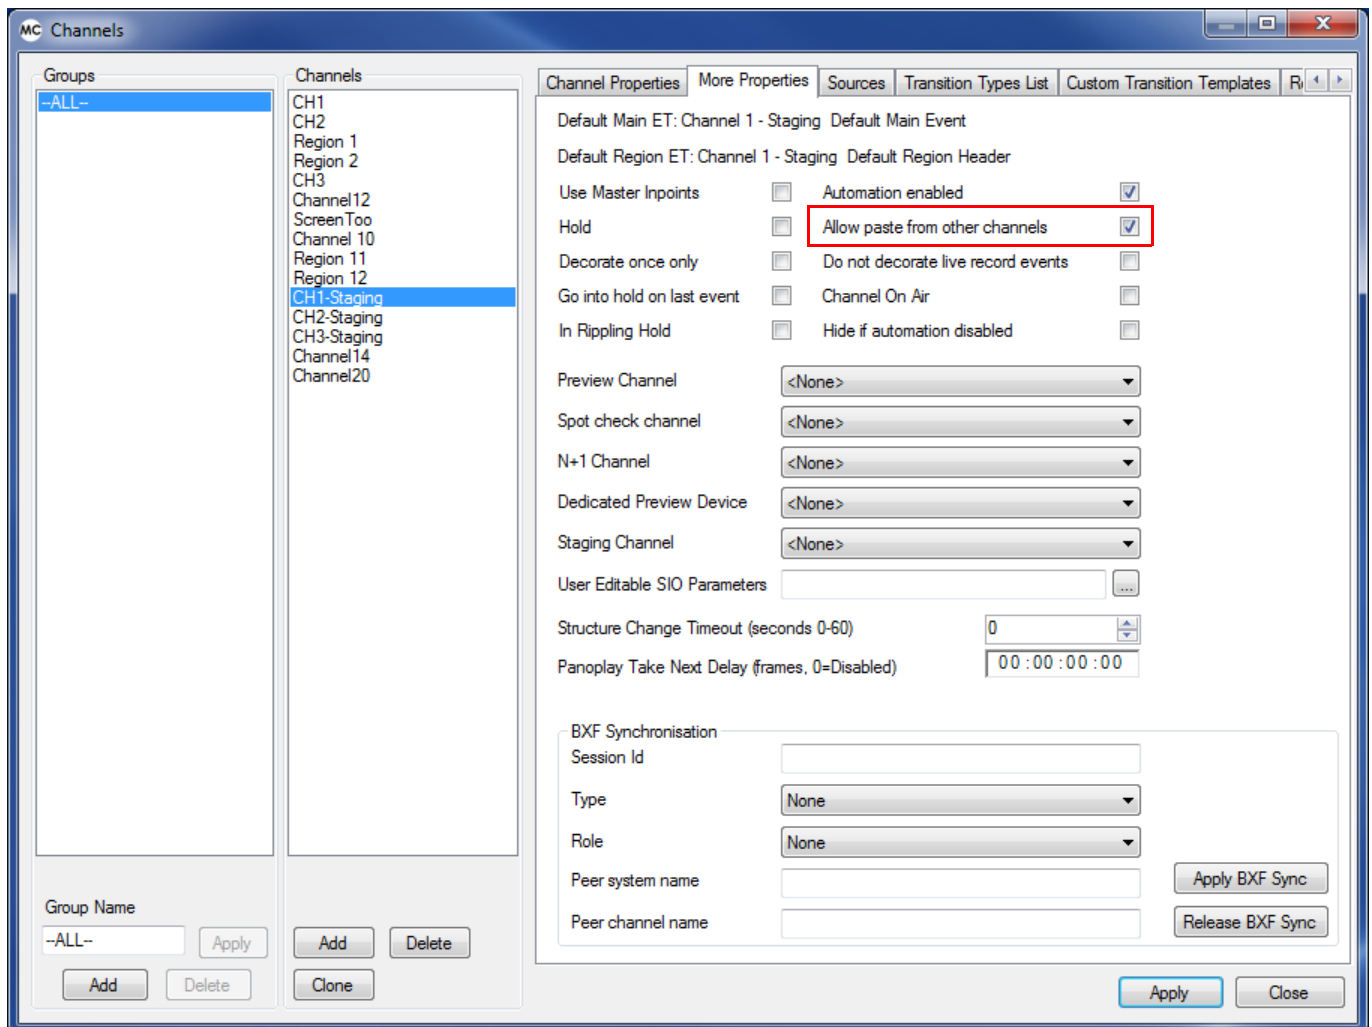

Figure 188 Staging Channel Configuration - More Properties
- c) If the manual extension of a Dead-Roll is anticipated (i.e. the manual addition of events onto the Staging Channel) then tick the **Allow Paste From Other Channels** checkbox on the Staging Channel's *More Properties* tab in the Configurator, as shown in Fig. 188.